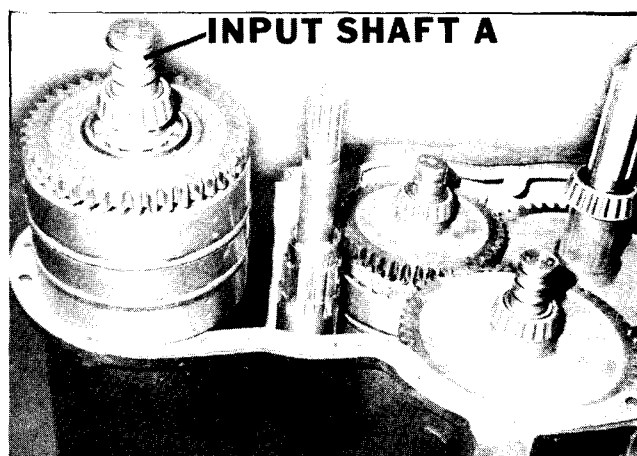

Figure 12
21. Remove complete input shaft assembly "A" by lifting straight up. (Figure 12)